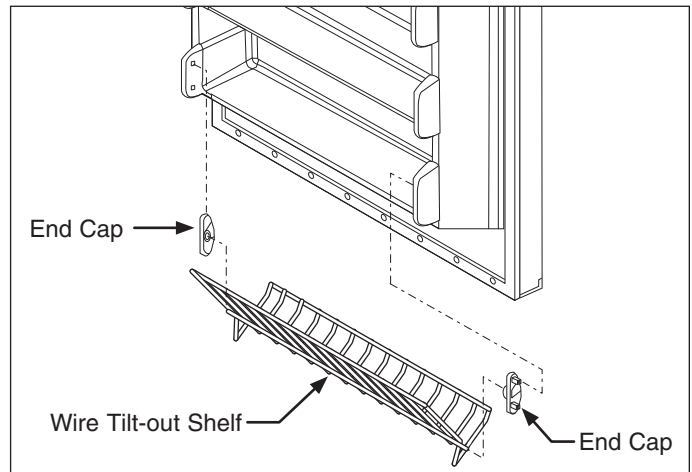

Figure 6-39. Door Lock Removal
1. Flex the inner panel outward and lift the wire shelf out of the end cap. Then pull the opposite end of the wire shelf out of the opposite end cap. (See Figure 6-39)